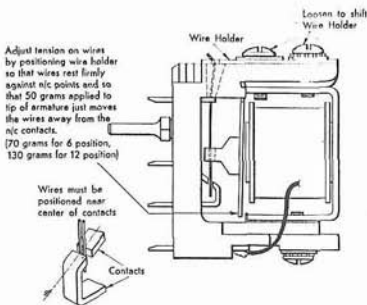

Figure 18
3. Figure 18. The contact wires should be inspected to insure that they are positioned near the center of the contacts (Insert, Figure 18). Armature end shake must not permit the wires to reach the edge of the contacts, but the armature pivot must be free.
4. Figure 18. Adjust tension on the contact wires by shifting the wire holder so that a 50-gram pressure applied at the center of the free end of the armature just moves the wires away from the contacts on the normally closed side. The 6- and 12-position relays require a 70 and a 130-gram pressure, respectively.